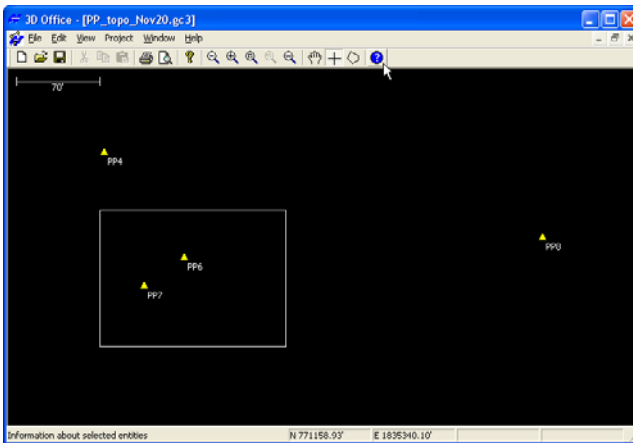

Figure 9-7. Select Control Point(s) and Click Information
1. Using the select tool, click on or draw a rectangle around the desired point(s), then click the activated Information button (Figure 9-7).